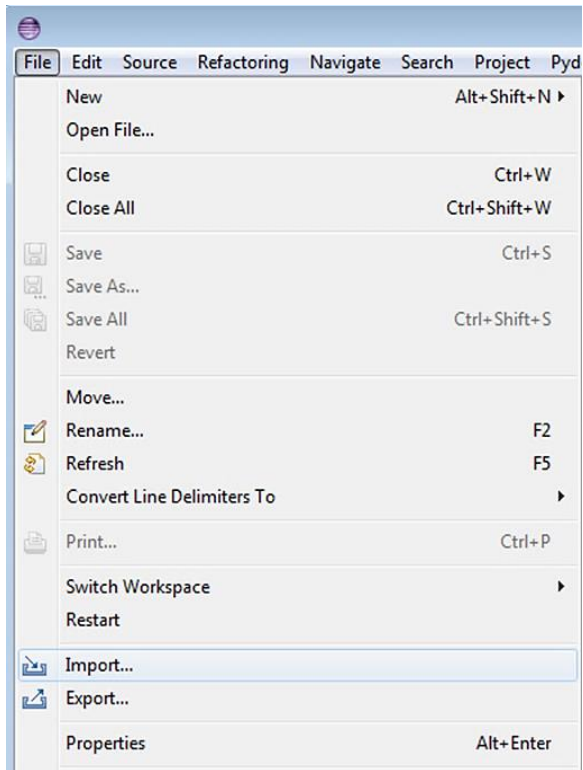

Figure 18: Checking Out OpenEIS with Eclipse from GitHub
1. Select File, then Import (Figure 18)